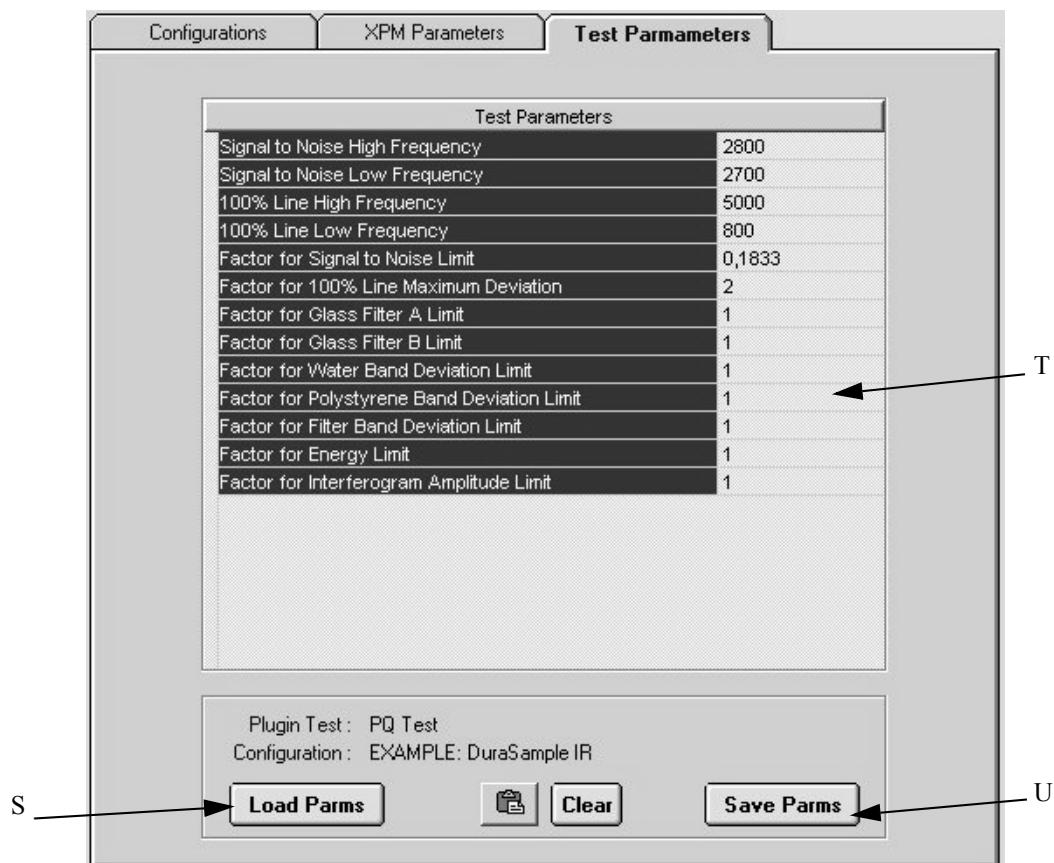

Figure 370: OVP Accessory Manager - Test Parameters tab
- 14)If you want to use the accessory with more than one instrument type click on the *Add new Configuration* button (Q) and repeat steps 9 to 13 for each new instrument type.
- 15)Click on the *Test Parameters* tab which will be empty and has to be activated by clicking on the *LoadParms* button (S in figure 370).